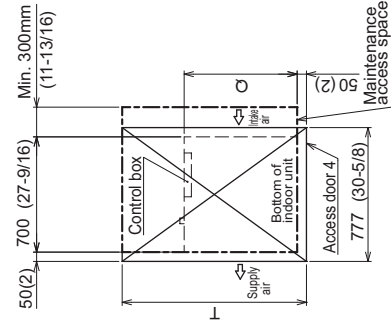

Fig.5 (Viewed from the direction of the arrow Y)
- Create access door 4 below the control box and the unit as shown in Fig.5.